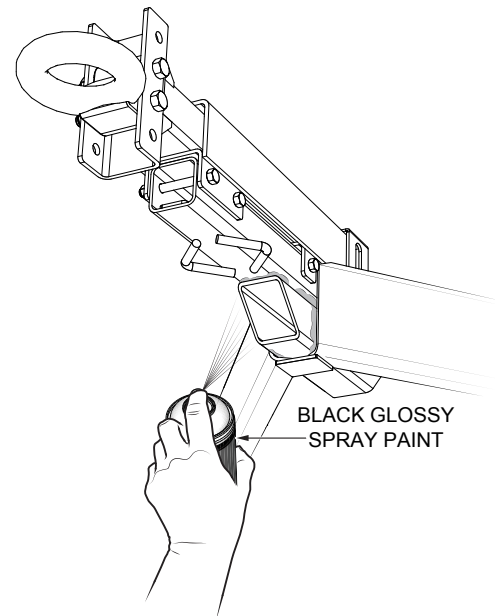

Figure 7. Painting Welding Area
- Clean all welding areas on the trailer frame with a wire brush, then paint area with **black glossy spray paint** (Figure 7).